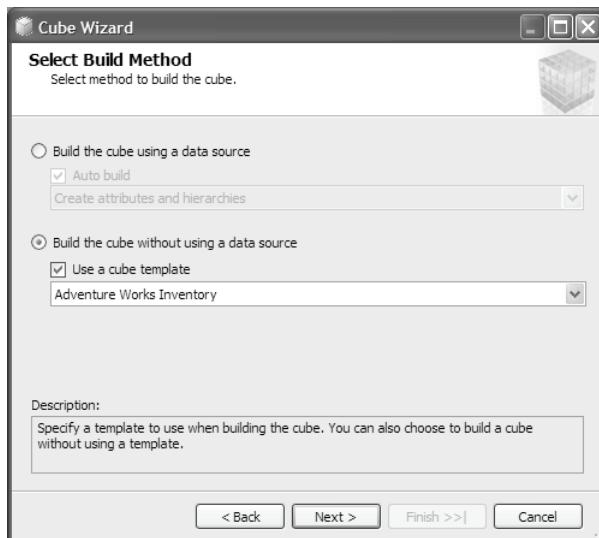

Figure 6.6 Use the Define New Measures step to make changes to the measures defined in the cube template and create new measures.
1. Right-click on the Cubes folder and select *New Cube* to launch the Cube Wizard. Click *Next* to advance to the Select Build Method step (Figure 6.6). The Cube Wizard discovers that we don't have a data source view defined in the project and defaults to the *Build the cube using a data source* option.